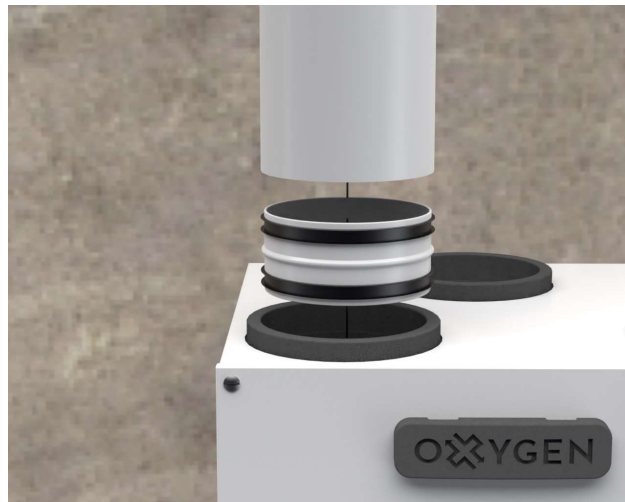

Figure 2. Air intake duct connection diagram
**IMPORTANT!** At least 1° ventilation duct incline (refer to Figure 2. "Air intake duct connection diagram") should be ensured or other sufficient measures taken to prevent ingress of outdoor humidity or precipitation into the Unit.